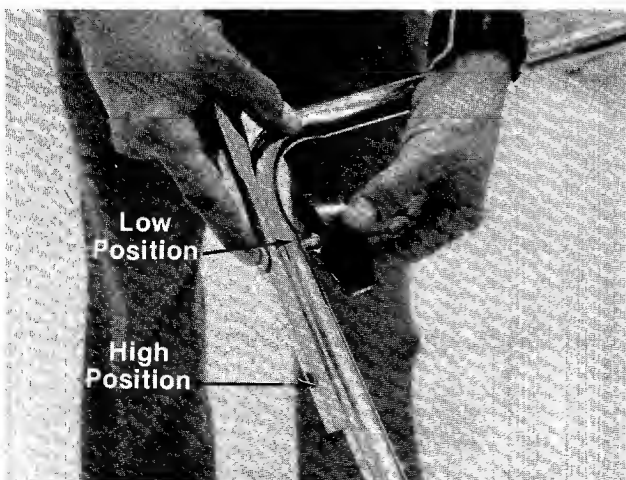

FIGURE 14.
4. There are two height positions for the handle. Place upper handle in position over lower handle, selecting hole for either high or low position. Refer to figure 14.
The upper handle can be adjusted to a high or low position. The adjustment is made by removing the two knobs or hex nuts and lock washers, removing the two curved carriage bolts and reassembling in the other position. See figure 14.